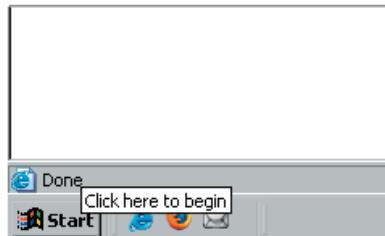
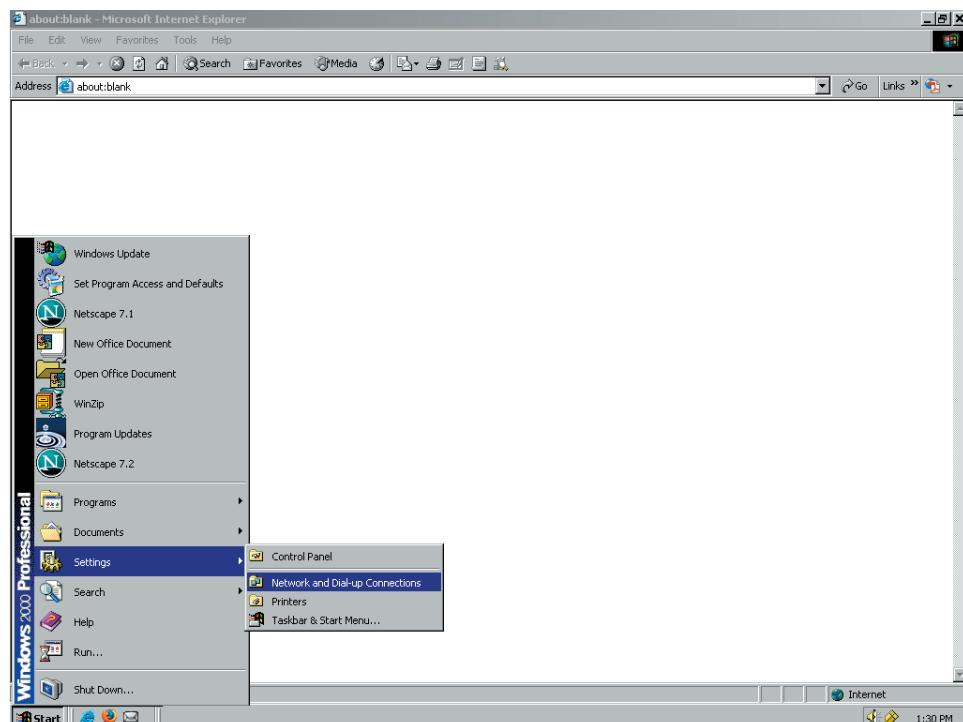
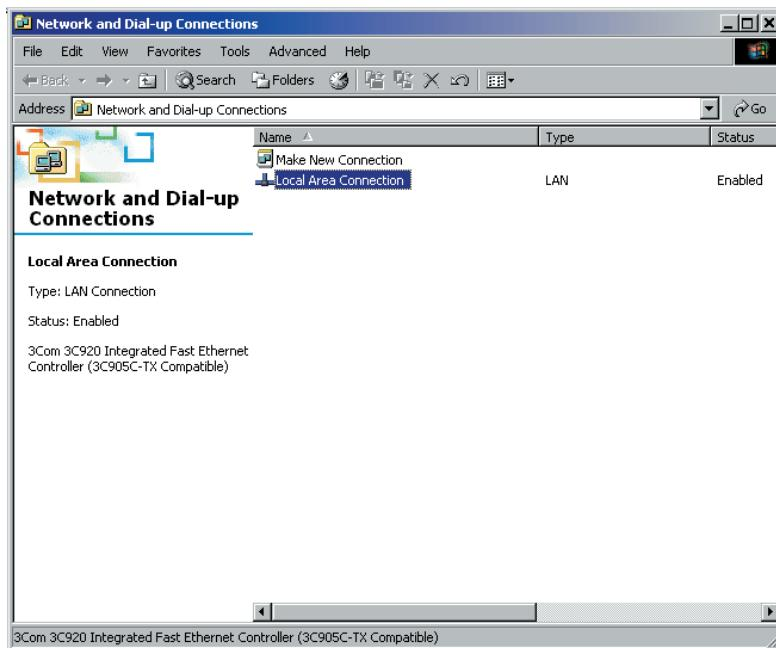
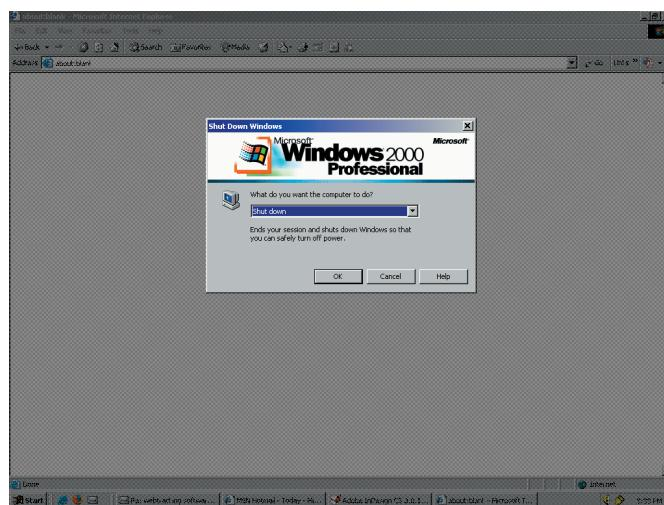

Figure 1-1. Windows 2000 Start Button Screen
Figure 1-2. Settings and Network and Dial-up Connections Screen
Figure 1-3. Local Area Connection on Network and Dial-up Connections Screen
Figure 1-7. Windows 2000 Shut Down Screen
Step 1: Select/click on the Windows Start Button on your computer (Figure 1-1), highlight Settings, and select/click Network and Dial-up Connections (Figure 1-2). Select/double click Local Area Connection (Figure 1-3).
Step 5: Select/click the Windows Start button (Figure 1-1), select the Shut Down option, then option the computer to Shut Down (Figure 1-7). Click OK.